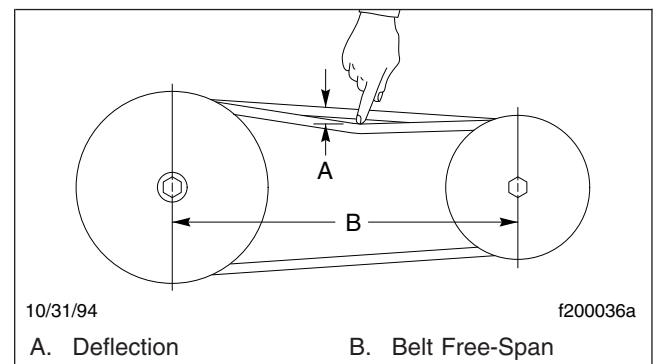

Fig. 11.14, Checking Belt Tension
5. Check the drive belt for proper tension. Use your index finger to apply approximately 25 pounds (11 kg) of force at the center of the belt free-span. See Fig. 11.14. Deflection should be one belt thickness per 1 foot (300 mm) of belt free-span. If the tension is more than or less than this value, measure it with a belt-tension gauge and adjust it to the proper tension. See **Group 01** of the *Walk-In Van Chassis Workshop Manual* for instructions.